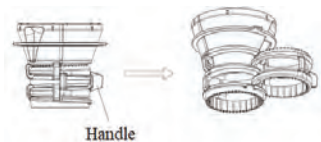

Fig.8
6. Empty the residue container, and then clean the feeding jar, grinding head, strainer, juicing jar, residue container and juice container under running water. To clean the strainer more completely, you can push the handle of the strainer aside to separate it for better cleaning (see Fig.8).